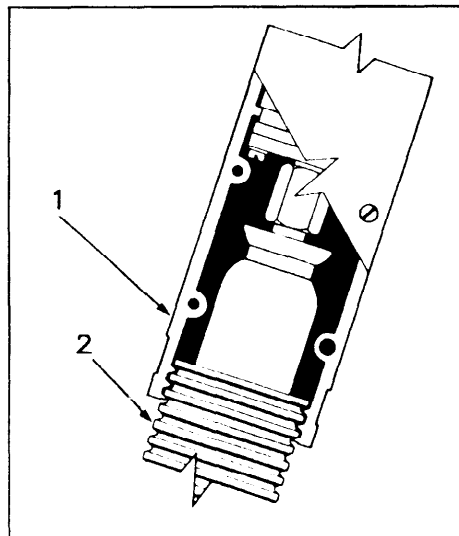

Figure 3.7 -- 1 Pivot sleeve shell, 2 Hose covering
11. Replace the pivot sleeve shells, making sure to clamp them around at least three corrugations of the protective covering on the hose (see Figure 3.7).